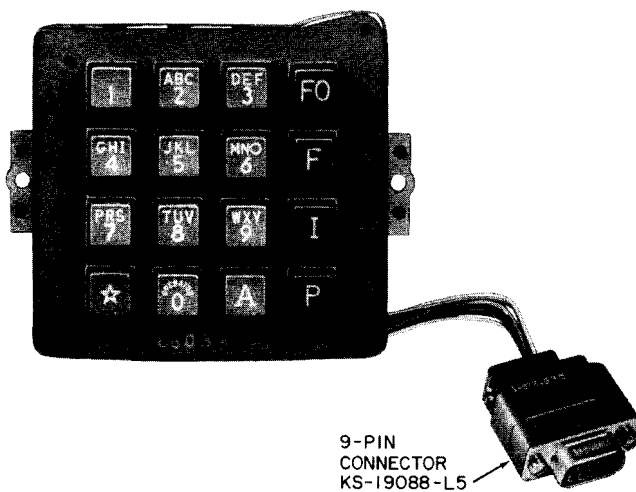

Fig. 5 — 66D3A Dial — Front View
2.20 The 66D3A dial (Fig. 5) is initially intended for use in a 50B dial mounting for PBX switchboards in the AUTOVON project. Contacts are provided on the common switch for external switching.